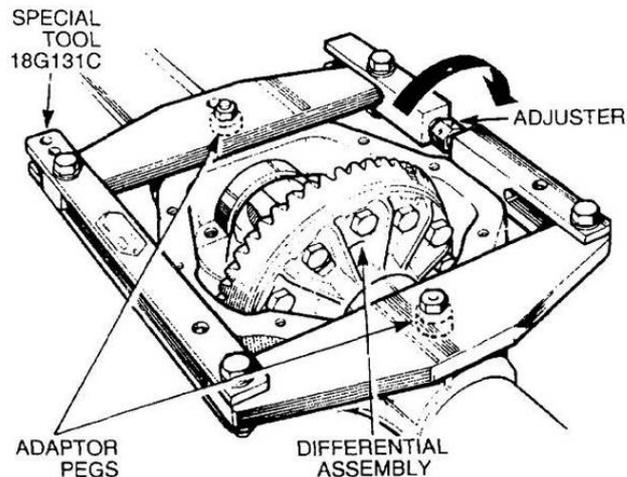

Figure 227 Removal of the Differential Assembly
- g.** Ensure that the two peg holes are clear of debris and excess paint. Install special tool 18G131C and adapter pegs 18G131F (Figure 227).